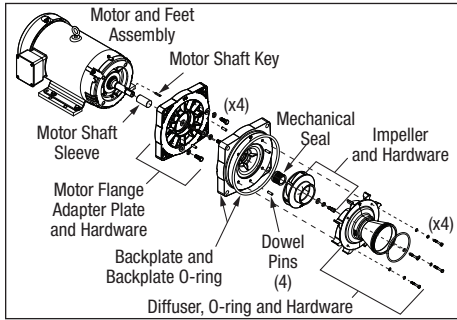

Figure 14. Remove Mechanical Seal, Impeller, Diffuser and Motor Accessories
10. Using a 7/16 wrench, loosen the four (4) Hex Screws securing the Diffuser to the Backplate. Carefully pull off the Diffuser and remove the Diffuser O-ring. See *Figure 14*.
16. For motors with a NEMA 182-184 JM frame, use a 9/16" socket wrench to loosen the four (4) hex screws securing the motor flange adapter plate to the motor. For NEMA 213-215 JM frames, use a 3/4" socket wrench. Carefully pull away the motor flange adapter plate avoiding any impact to the motor shaft and set aside. See *Figure 14*.